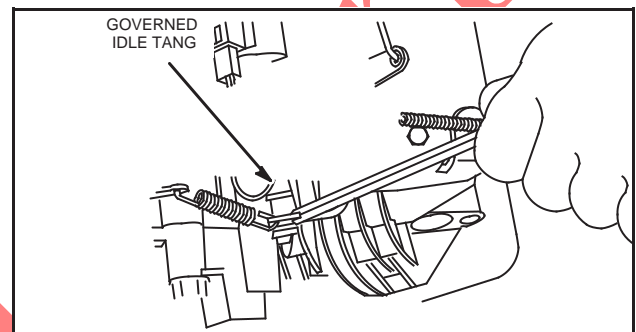

Fig. 23 - Adjusting Governed Idle
3. Bend governed idle tang to obtain 1750 RPM, Fig. 23.